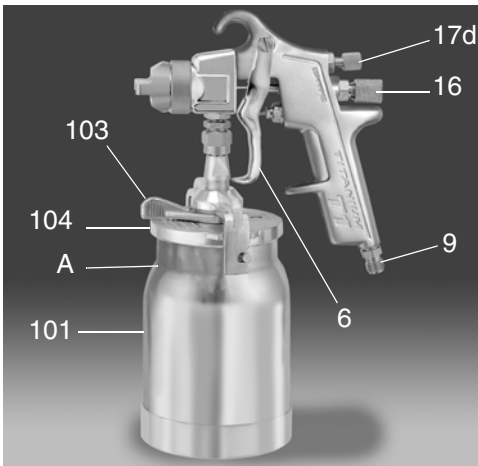

FIG. 1
1. Fill cup (101) with material. Do not fill past cup "shoulder" (A). See FIG. 1.
2. Screw cup (101) onto lid (104) securely. Press lever (103) fully clockwise to seal cup.